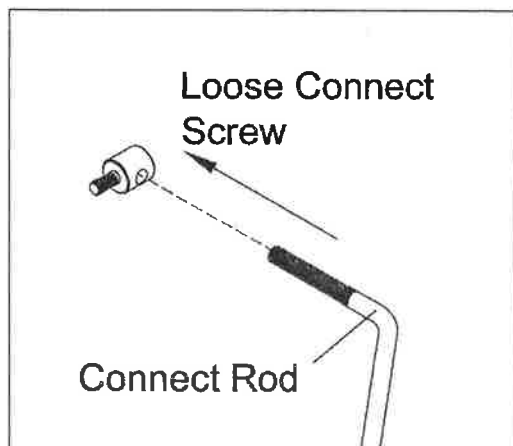

Figure 7
4. Loose one Connect Screw from the Connect Rod. See Figure 7.